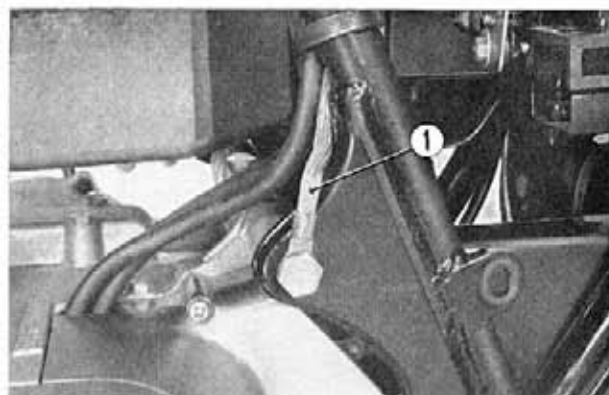

Fig. 2-7 ① Ground cable
2. Install the hanger bolts and nuts and exercise care that the ground cable terminal is installed together with the engine rear upper bolt (Fig. 2-7). The hanger plate and the stop switch stay are also mounted with the hanger bolts.